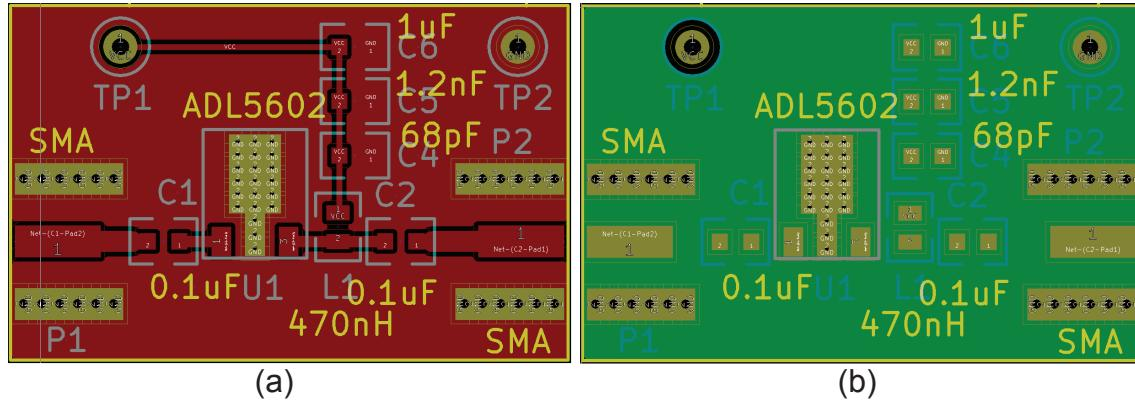

Figure 48: Layout of the example 2 circuit after copper filling. (a) Front side. (b) Back side. Note that the component footprint is always visible.
4. Once the fill zones have been defined, right click on anywhere in the main layout window and select “Fill or Refill All Zones” to create the copper fill. Fig. 48 shows the copper filled layout. Notice that the gap between the trace and the fill is uniform everywhere. This is because we have set up only one fill zone on each layer. Setting up multiple fill zones will allow you to have multiple separations.